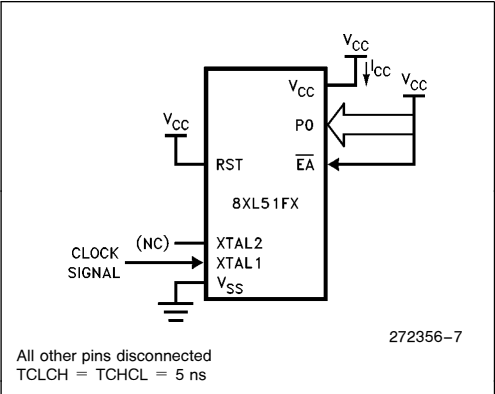

Figure 6. I_{CC} Test Condition, Active Mode
3. See Figures 6–9 for test conditions. Minimum V_{CC} for power down is 2V.